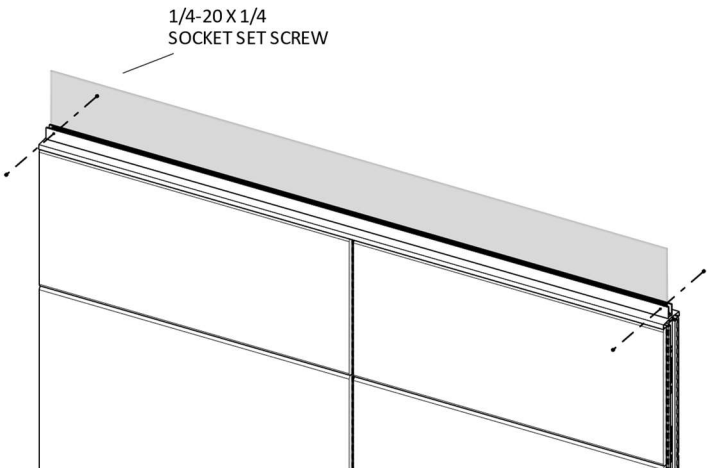

FIGURE 4
- Align and secure the glass/acrylic by inserting 1/4-20 X 1/4" Socket Set Screw through each of the holes on the side of the Frameless Glass/Acrylic Extrusion using Allen Key driver, (Figure 4).